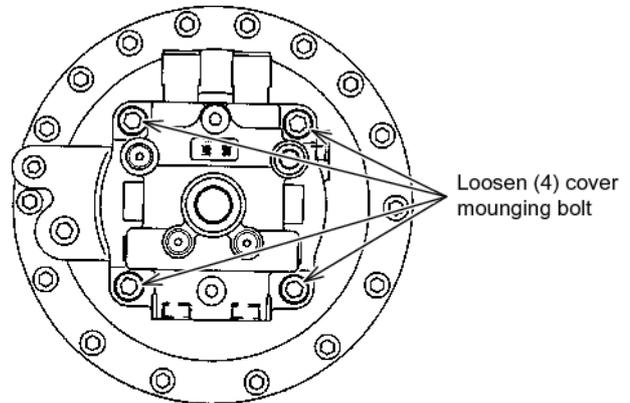

Fig. 8-14
5. Loosen the four top plate mounting bolts with the 14 mm allen wrench. See Fig. 8-14.